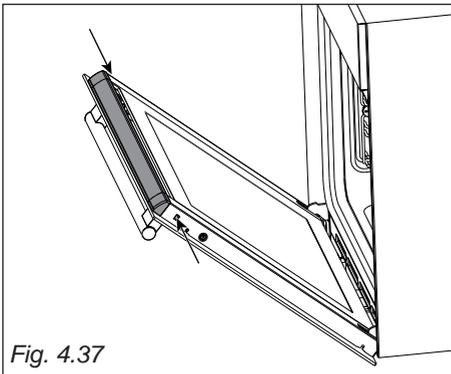
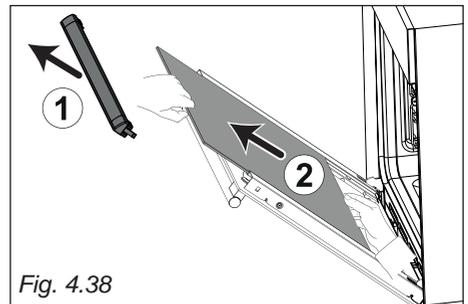

Fig. 4.37
Fig. 4.38
- Press the tabs on the sides of the glass retainer which is positioned at the top of the oven door (arrows in fig. 4.37), then gently remove the retainer (arrow 1 in fig. 4.38).
- Gently pull out the inner pane of glass (arrow 2 in fig. 4.38).